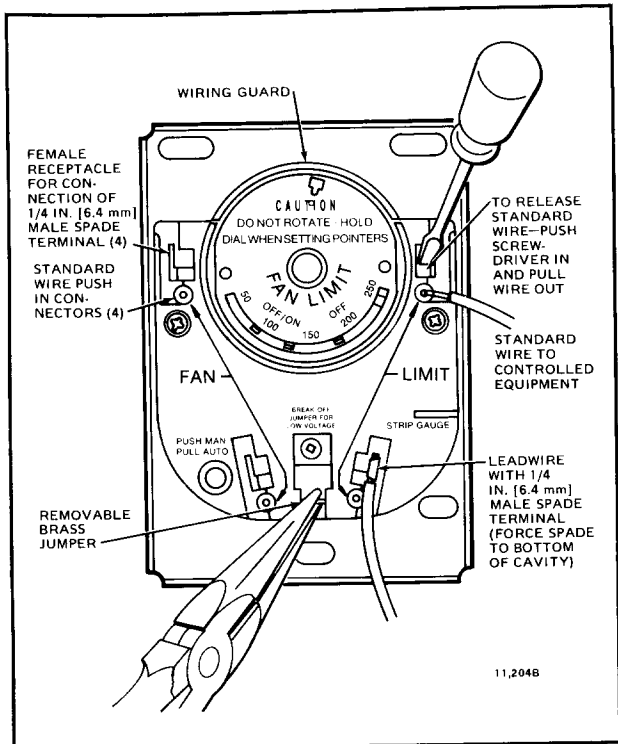

FIG. 11—LOCATION OF WIRING CONNECTIONS.
The brass jumper is the breakaway type. It must be removed when the limit is used in the low voltage circuit. To remove jumper, break with a needlenose plier and remove completely. Once removed, it is not replaceable. See Fig. 11 for location.
When connecting cable or conduit to this controller, use care to avoid strain on the control case. Connections can be made to standard wire push-in terminals or female receptacles for 1/4 in. [4.6 mm] male flag connectors on both the fan and limit switches (Fig. 11). L4064T,W,Y has male push-in terminal for low voltage heater, which requires a 1/4 in. [4.6 mm] female flag connector.
3. Solid wire may be inserted directly into the terminal holes. If stranded wire is used, insert a small screwdriver into the slot next to the terminal. Push screwdriver in and hold while inserting wire into terminal (Fig. 11). Remove screwdriver. If stranded wire is solder-dipped, it can be pushed directly into terminal holes.
3. Push male flag connector directly into the female receptacle. Make sure that the flag is forced to the bottom of cavity and wire is in the channel (Fig. 11).